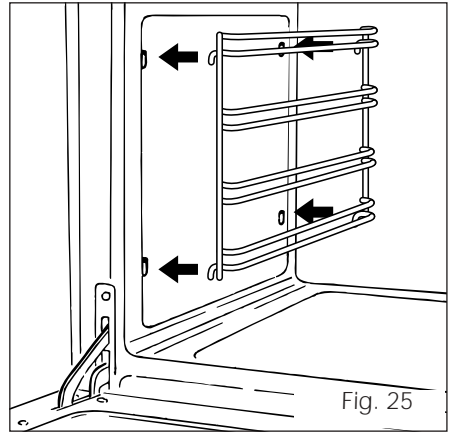

Fig. 25
- Fit the side runner frames into the holes on the side walls inside the oven (Fig. 25).